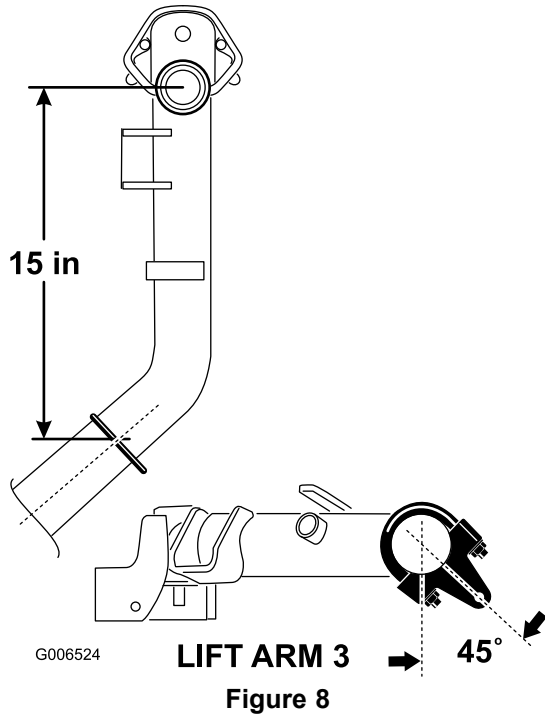

**Figure 7**
1. On lift arms 1, 4, and 5, position the chain brackets and U-bolts 15 inches (38 cm) behind the center line of the pivot knuckle (Figure 7).
**Note:** On lift arms 1 and 5, the brackets should be rotated to the right 10° from vertical (Figure 7).
**Note:** On lift arm 4, the bracket should be rotated to the left 10° from vertical (Figure 7).